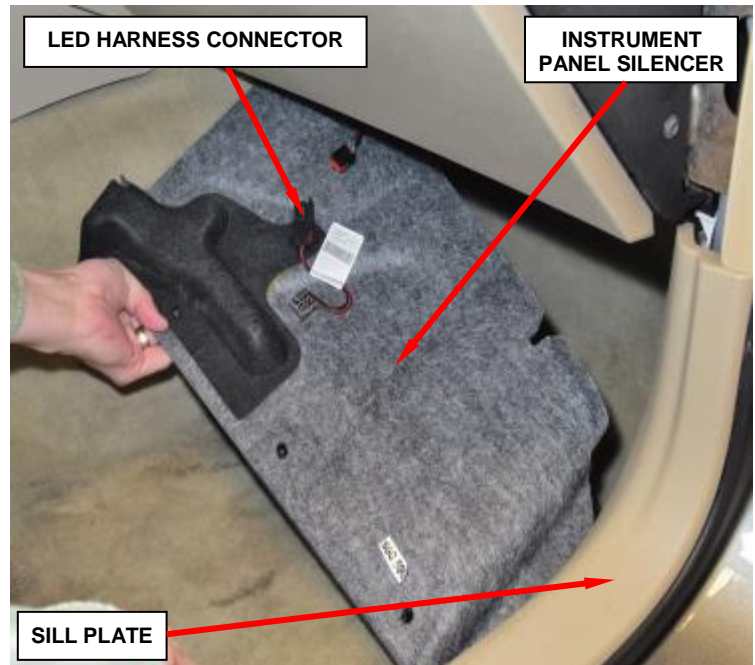

Figure 35 – Instrument Panel Silencer
- b. Remove the right side sill plate (Figure 35).
- c. Remove the three pushpins that secure the instrument panel silencer to the instrument panel (Figure 35).
- d. Disconnect the harness connector(s) and remove the right side instrument panel silencer (Figure 35).